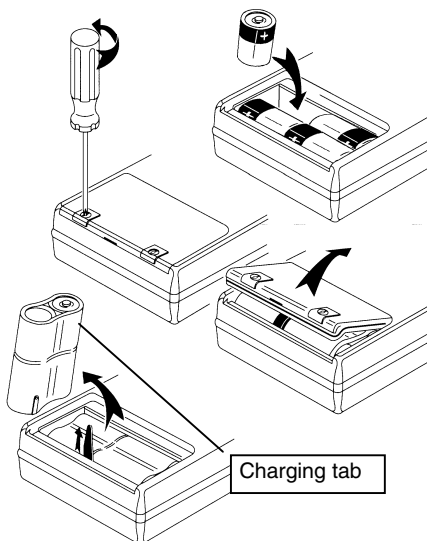

Figure 122 Replacing Batteries.
6. Insert new batteries or battery pack according to Figure 122.